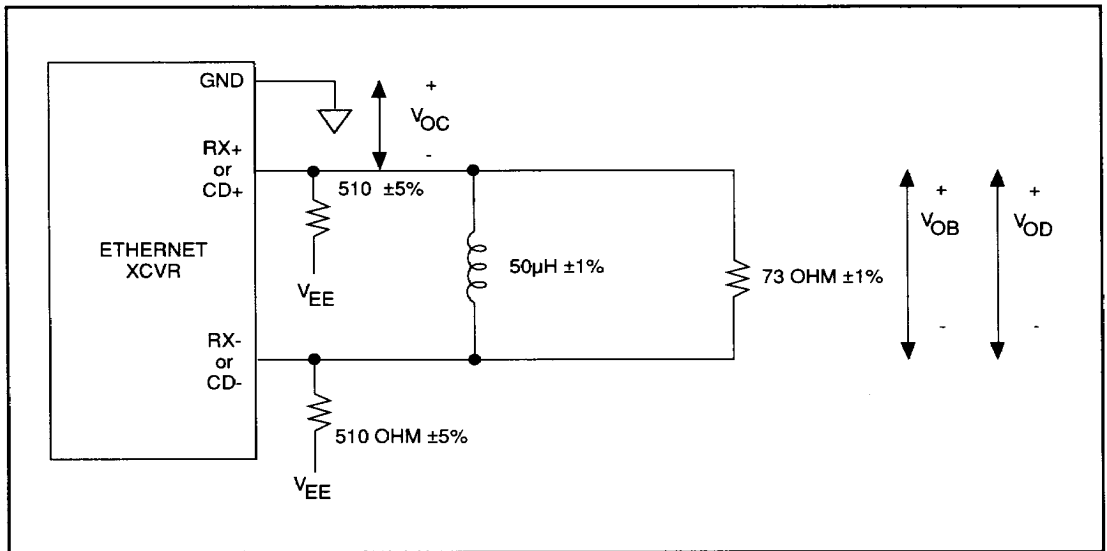
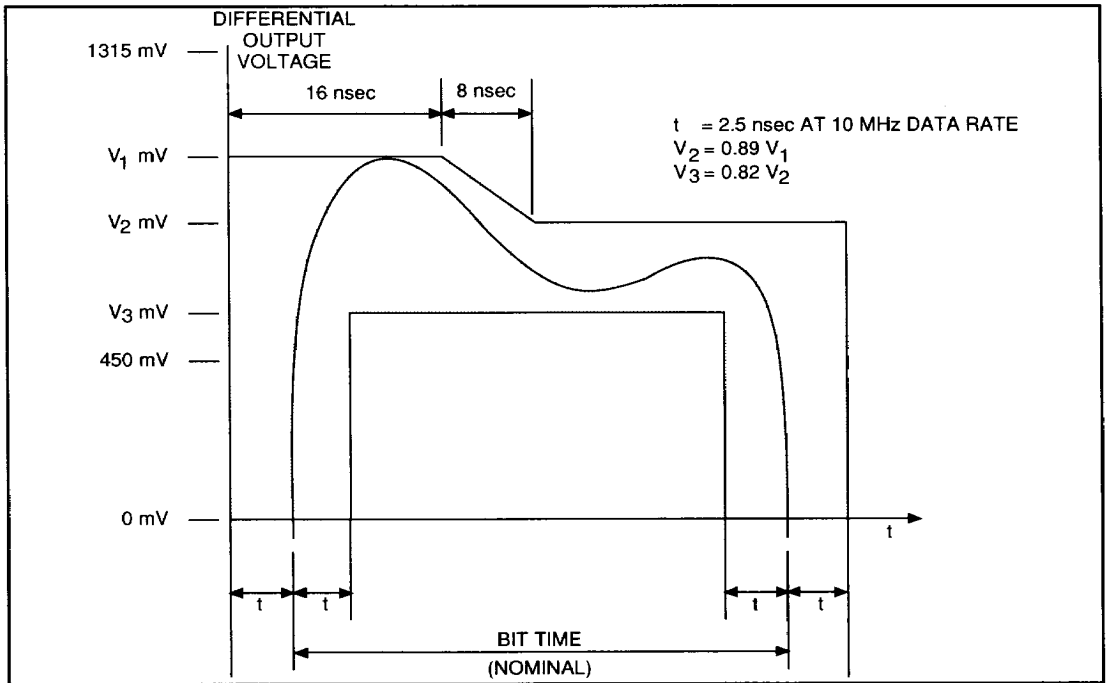

FIGURE B-1. TEST LOAD FOR CD% OR RX%
FIGURE C-9. DYNAMIC PULSE ENVELOPE
8. Test load as shown in Figure B-1.
6. The dynamic voltage waveform stays within the shaded area of Figure C-9 when loaded as shown in Figure B-1.